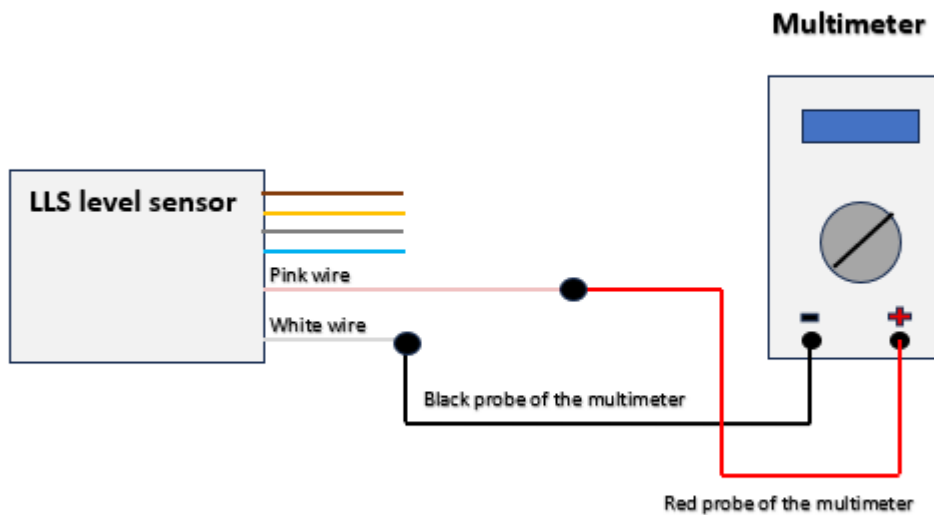

Fig. 6 Connection Diagram
2. Assemble the connection circuit according to "Fig. 6 Connection Diagram".